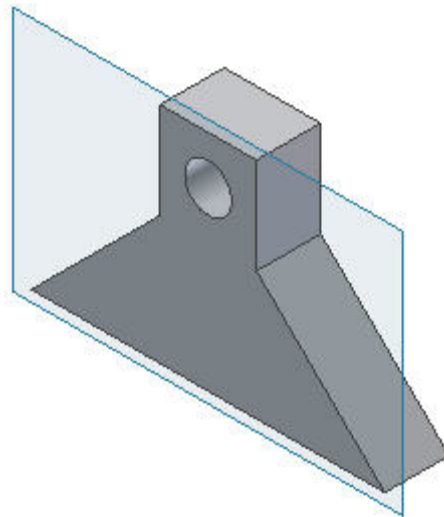

Figure 12
10. Click on the **OK** button and the finished part should look like Figure 12.